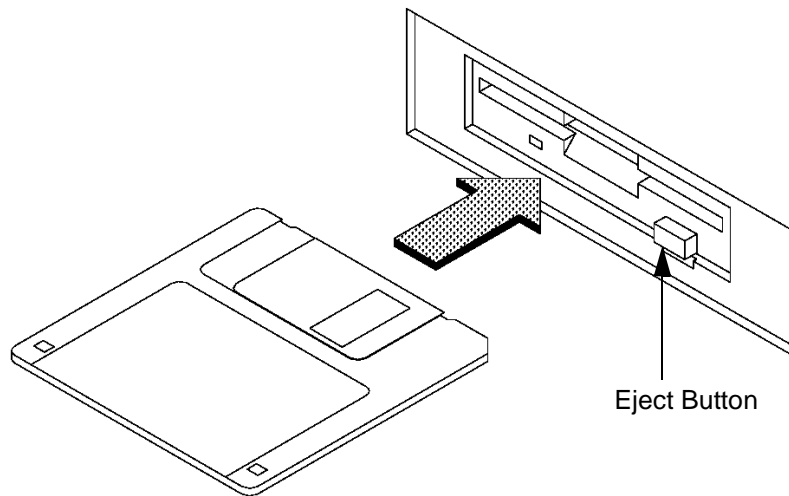

Figure 8-10
- 1 Insert the diskette into the drive, as shown in Figure 8-10.
- 3 To remove the diskette, push the eject button (Figure 8-10), then take out the diskette.